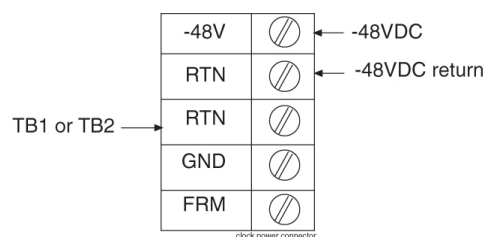
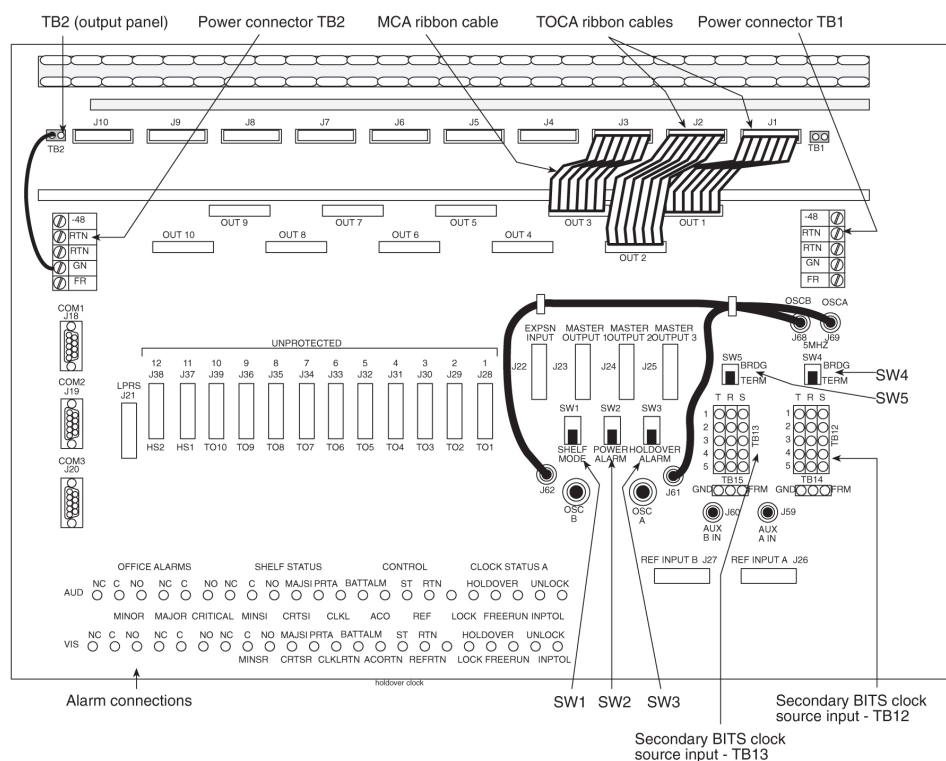

Figure 113: Holdover Clock Power Connector
Figure 114: Holdover Clock and Output Panel, Rear
Timing Output Composite Clock Automatic (TOCA) ribbon cable; check to insure that the ribbon cables connecting the holdover clock with the output panel are connected as shown in Figure 114:
Check that the output panel frame ground cable is installed between TB2 on the output panel and an output panel mounting screw, see *Figure 114: Holdover Clock and Output Panel, Rear*.
See *Figure 113: Holdover Clock Power Connector* and *Figure 114: Holdover Clock and Output Panel, Rear* for holdover clock connector locations.
4. Route the cable up the left side of the control frame, viewed from the rear, over to the miscellaneous frame containing the holdover clock, and down the left side of the miscellaneous frame to the cable tie bar next to the alarm connections, see Figure 114: Holdover Clock and Output Panel, Rear.